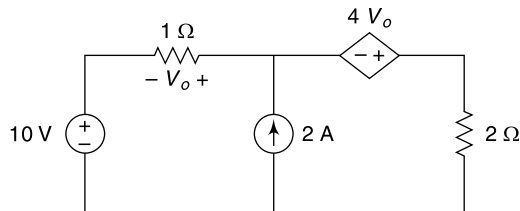

Fig. 4.149 Circuit of Ex. 4.118
4.118 Find power loss in the 2Ω resistor shown in Fig. 4.149 using superposition theorem.
Considering the 10 V source acting alone in the circuit [Fig. 4.149(a)] the loop equation